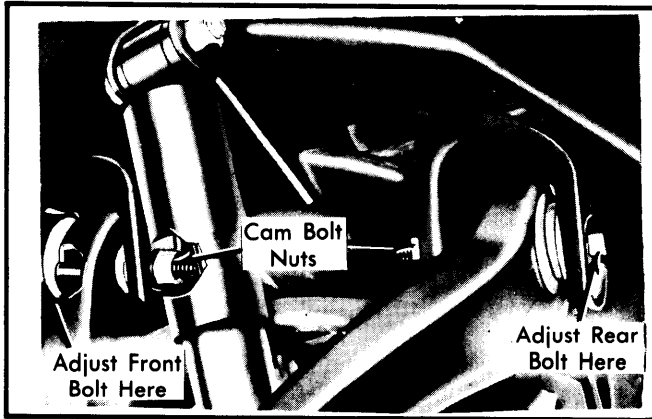

Fig. 31 Caster and Camber Adjustment (Toronado)
Toronado — 1) Note camber reading before adjusting caster. Hold front cam bolt and loosen nut. Turn cam to obtain a change equal to 1/4 of the desired caster change. See Fig. 31.
2) Hold cam bolt in this position while tightening nut to 110 ft. lbs. to maintain setting. Then, follow the same procedure with the other cam assembly. Caster setting then will not be affected. See Fig. 31.